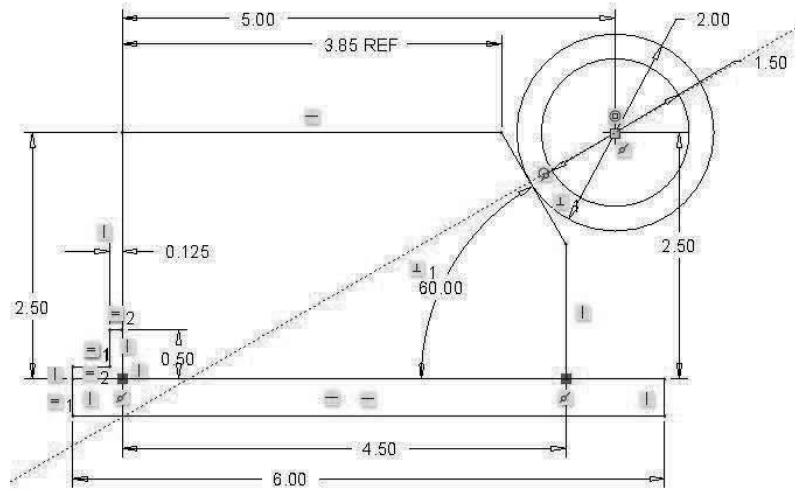

Figure 3-65 Line of Action for Pipe Force
**Step 30:**  Select the **centerline** tool. Using the LMB *pick* the center of the pipe, then the point where the line touches the jig's slanted surface. The normal force produced by the pipe pushing on the slanted surface will lie along this line. If this line crosses the left edge of the jig above the fixed tab, then the jig will not stay in place by itself. In this case, this line crosses below the fixed tab, thus this jig will stay in place when released. See Figure 3-65.